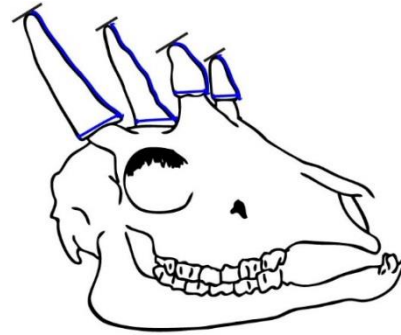

Figure 10 Four-Horned Antelope
1. Length. Measure the length of the each horn on the front curve (in the center of the horn) from the lowest edge of the base to the tip. (Figure 10, A–B)
2. Circumference. Measure the circumference of the base of each horn at a 90-degree angle to the axis of the horn. (Figure 10)